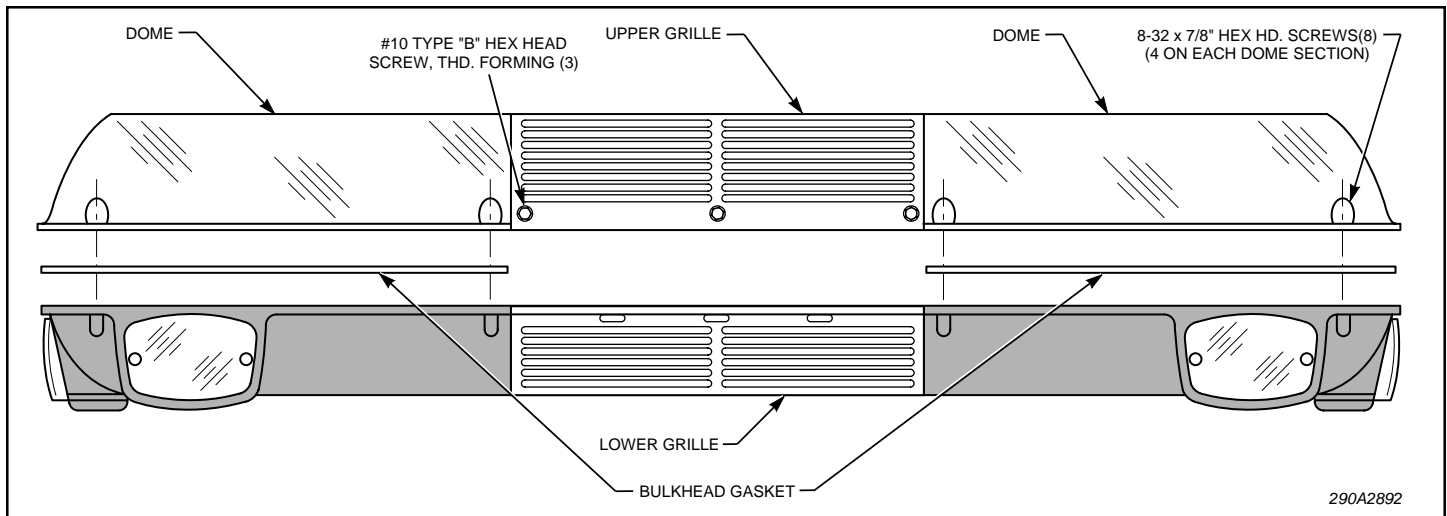

Figure 4.
1. Dome Removal (see figure 4).